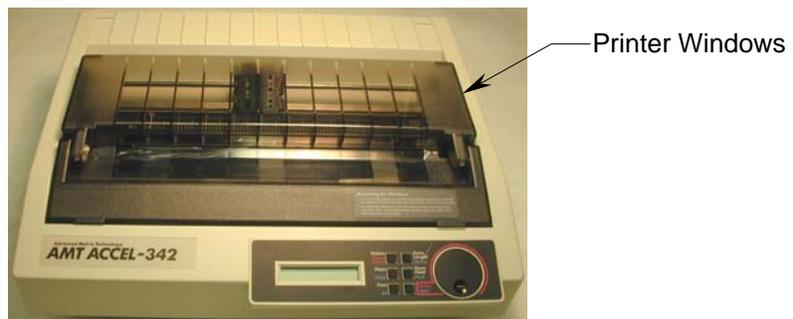

Figure 1
3. Remove the Printer Windows from the printer (see figure 1).